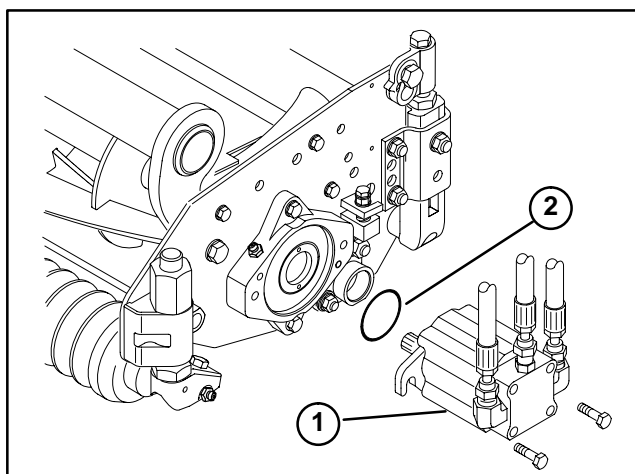

Figure 50
12. Mount the motor to the drive end of the cutting unit and secure with two capscrews provided (Fig. 50).